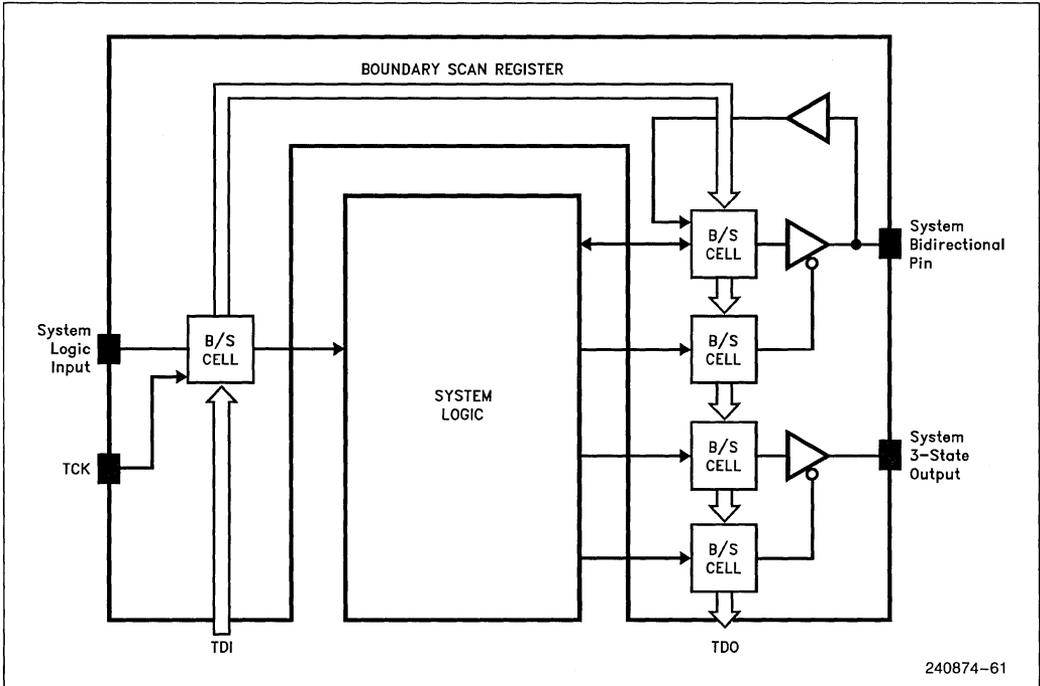

Figure 6.2. Logical Structure of BSR Register
- **Boundary Scan Register (BSR):** The BSR is a single shift-register path containing 150 cells that are connected to all input and output pins of the i860 XP microprocessor. Figure 6.2 shows the logical structure of the BSR. Input cells only capture data; they do not affect operation of the i860 XP microprocessor. Data is transferred without inversion from TDI to TDO through the BSR during scanning. The BSR can be operated by the EXTEST and SAMPLE instructions.